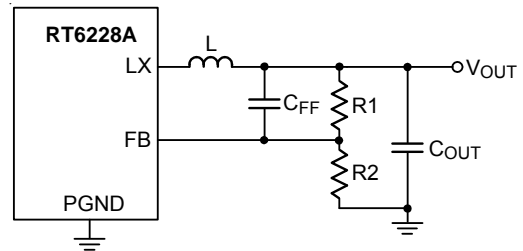
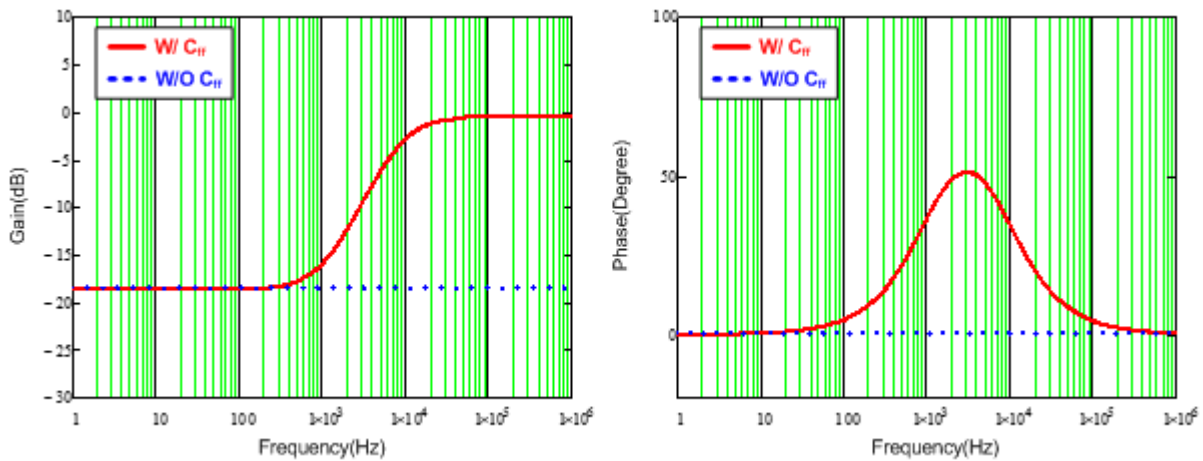

Figure 5. Feedback Loop with feedforward Capacitor.
Figure 6. Bode Plot with Different Feedback Loop Conditions
For saving time to design compensator and reducing the layout area through external components, the components of compensator are integrated in IC. However, this integrated compensator might not suit to every load transient spec. Hence, for the RT6228A to be more adaptable, the feedforward capacitor C_{FF} is used in the feedback loop to improve transient response, as shown in Figure 5. Figure 6 shows the comparison result of bode plot with different feedback loop conditions. Referring to Figure 6, through connecting a C_{FF} in feedback network, the gain and phase are raised in mid-frequency that not only can extend the bandwidth, but boost the phase margin as well. Moreover, there is also a high frequency pole to eliminate high frequency noise. Consequently, those features of feedforward feedback network allow the RT6228A have faster response to handle different load transient.
Observing Figure 6, the maximum phase boost occurs between zero and pole frequencies that is defined as maximum phase boost frequency, as expressed in equation (4). Hence, in order to achieve the maximum phase boost by adding C_{FF} in the RT6228A, the system's original bandwidth has to be located at maximum phase boost frequency.